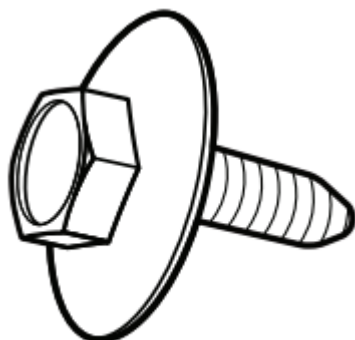

Figure: 3
- Attachment 3: Align the rectangular hold in the side shield with the toe panel screw hole. Insert the Toe Panel Screw(see figure 3) and Loosely tighten it to hold it in place until the Toe Panel is installed.